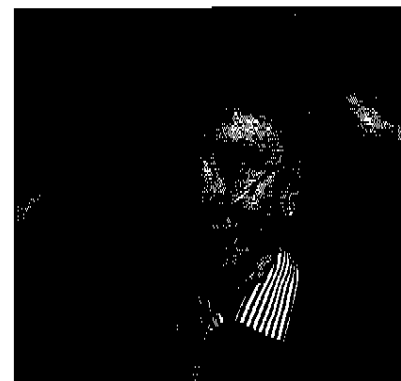

Figure 6
3. Your DeVilbiss concentrator is now ready for use, properly position the cannula or mask (**Figure 6**). Allow 20 minutes for oxygen concentrator to reach stated performance.